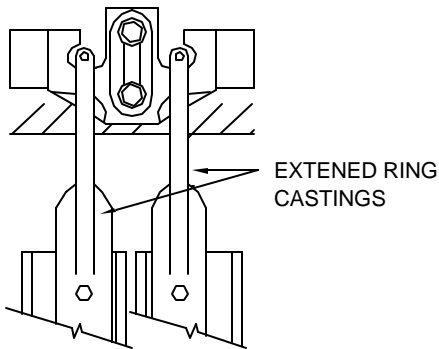

Fig. 1-2
2. Fasten the PR-25L extended ring to the left hand closing channel. Fasten the PR-25 extended ring to the right hand closing channel. Inside looking out, hang both closing channels by positioning the extended ring castings onto the DCP-50-A center pipe casting (Fig. 1-2).